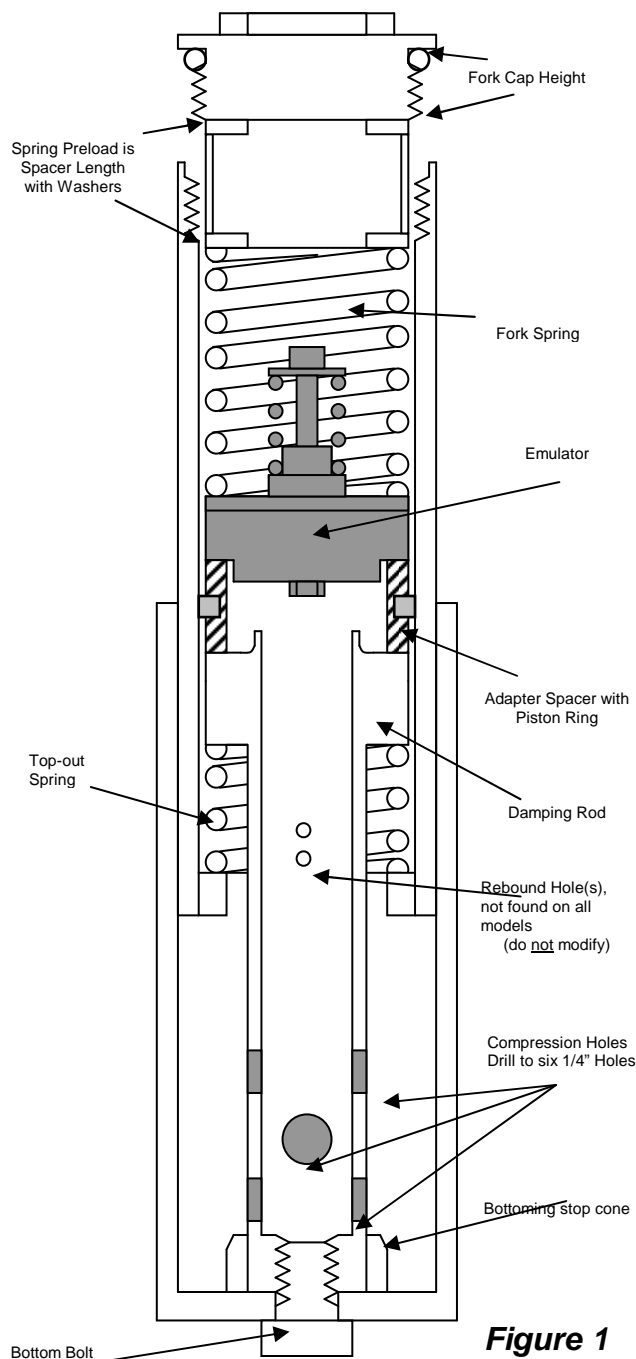

Figure 1
- 2 Drill the existing compression holes in the damping rod to 1/4 inch (6.4 mm) so you end up with Six holes (3 sets of 2 holes) (figure 1).** When drilling new holes, space them axially (lengthwise) at 10 mm (7/16") increments. Each set of two holes must be perpendicular to the last set so as not to weaken the rod (figure 1). After drilling, chamfer and deburr the compression holes, inside and out. **Do not add or enlarge the rebound holes and leave their edges sharp.** Adapter will be required for the Gold Valve, Adapters may or may not incorporate Piston Rings. You may need to modify and machine damping rod top, see page 2 for details.
- a. Drop the Emulator down the tube. It sits on top of the adapter spacer & damping rod with the Emulator Valve Spring facing up and is held in place with the main fork spring. Refer to figure 1. Visually check to make sure the Emulator is sitting squarely on top of the damping rod.
- c. Set the fork cap on the washer and determine the preload by measuring from the top of the fork tube to the sealing lip on the fork cap (see figure 1). This is a direct measurement of fork spring preload. Shorten the spring spacer tube to achieve the proper preload.